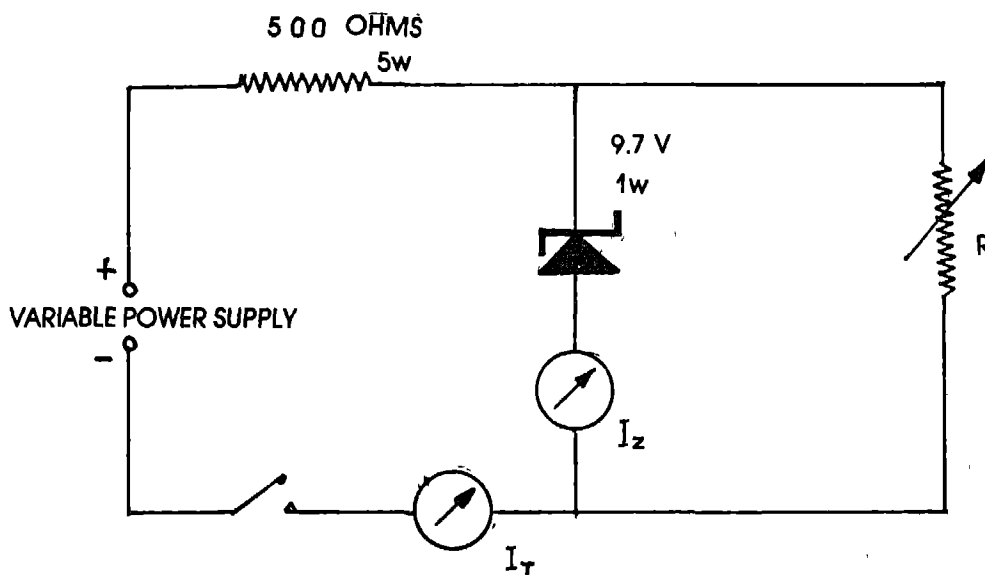

Fig. 5.4
1. Make the connections as shown in Fig. 5.4.
1. When the circuit is connected as in Fig. 5.4, the zener diode is forward or reverse biased?